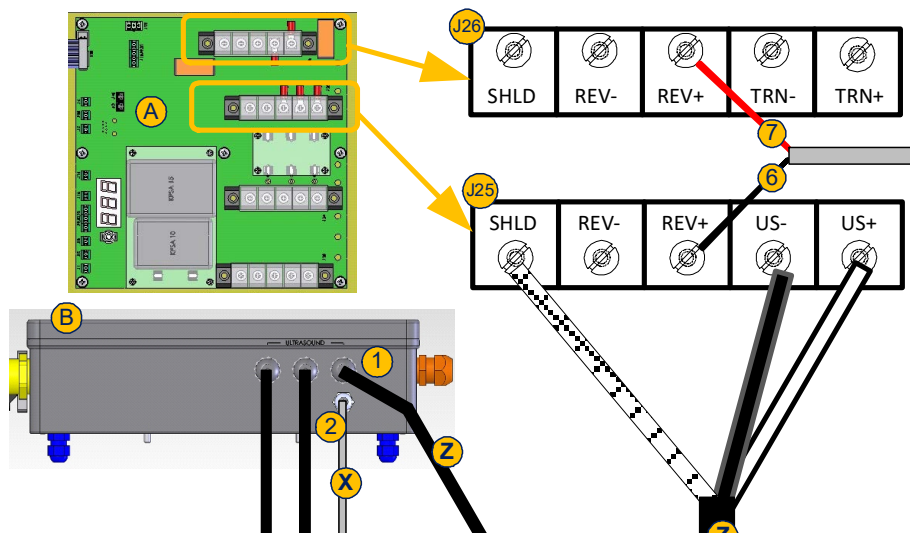
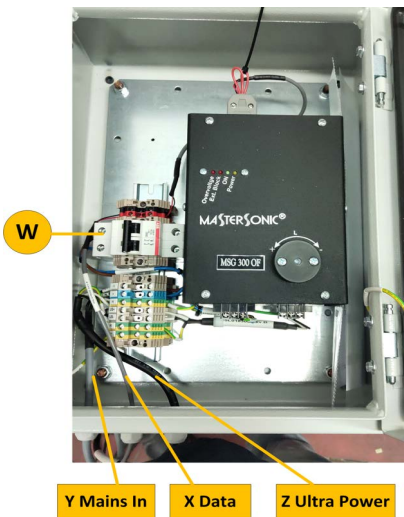

Figure 5-23: Ultrasonic Cleaner Cable Connections in the Connection Box
Figure 5-24: Ultrasonic Cleaner Module - Inside View
- Step 1.** The Ultrasonic Cleaner cable (marked **(Z)** in **Figure 5-23** above) is connected in the Connection Box #1 to terminal **(J25)** from the factory. From the Connection Box, extend the Ultrasonic Cleaner cable **(Z)** to the Ultrasonic Cleaner Module and thread it through gland in **Figure 5-24**.
- Step 4.** From the Ultrasonic Cleaner Module, extend the Control cable (marked **(X)** in **Figure 5-23** above) to the Atlantium Unit and thread it through gland **(2)** on the Connection Box #1 **(B)**.